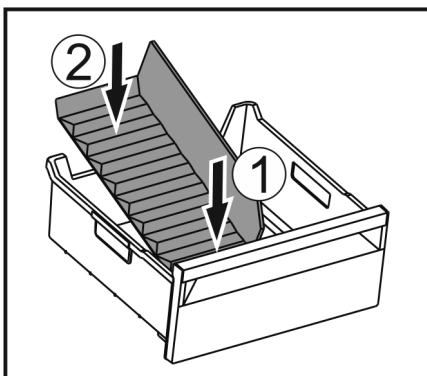

Fig. 70
- ▶ Insert the front part of the ice compartment divider. Fig. 70 (1)
- ▶ Lower the rear part of the ice compartment divider to the drawer bottom. Fig. 70 (2)